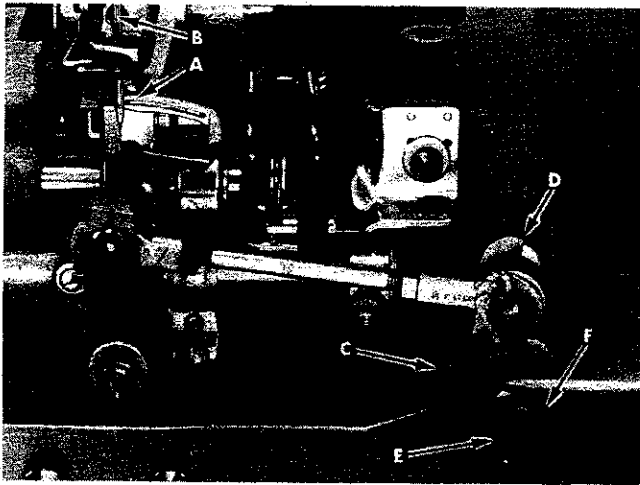
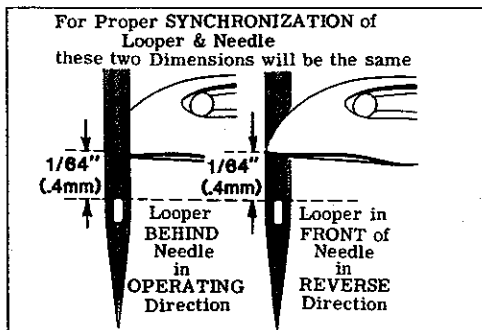
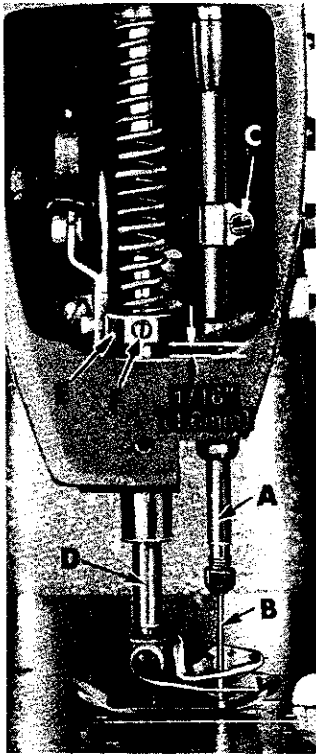

Fig. 3
Fig. 4
Fig. 8
Turn handwheel in the operating direction until the point of the looper (A, Fig. 3) moving to the left, is even with the left side of needle (B). Note the height of the eye of the needle with respect to the looper point (See Fig. 4). Turn the handwheel in the reverse direction until the point of the looper again moving to the left, is even with the left side of needle (See Fig. 4). If the height of the eye of the needle with respect to the looper point are the same, looper and needle motions are synchronized - a variation of .005 inch (.127mm) is allowable. If the distance from the eye of the needle to the point of the looper is greater when the handwheel is turned in the operating direction, the looper drive lever rocker shaft will have to be moved slightly towards the rear. Moving the shaft towards the front acts the reverse.
NOTE: The 1/64 inch (.4mm) dimension shown in Fig. 4 is for final setting of needle bar height.
Loosen screw (C, Fig. 3) in looper drive lever (D). A rod of .146-40 thd. or Union Special Screw No. 22870 A can be threaded into the looper drive lever rocker shaft through the center of thrust adjusting screw (E). Tap or pull slightly as required to position shaft for proper synchronization. Tighten screw (C) securely and remove rod or screw used to position shaft.
Height of needle bar (A, Fig. 8) is correct when the top of the eye of needle (B) is $1/64$ inch (.4mm) below the underside of looper as shown in Fig. 4. Adjustment can be made by loosening screw (C, Fig. 8), move needle bar (A) up or down as required, retighten screw.
Height of presser bar (D, Fig. 8) is set correctly if it is possible to remove the presser foot when the foot lifter lever, located at the back of the machine and extending above the upper crank chamber cover is fully actuated (pulled to the right). There should be approximately 1/16 inch (1.6mm) clearance between lower surface of the Presser bar connection and guide (E) and bottom surface of head opening in the bed when foot lifter lever is released and presser foot lying flat on the throat plate with feed dog below throat plate.